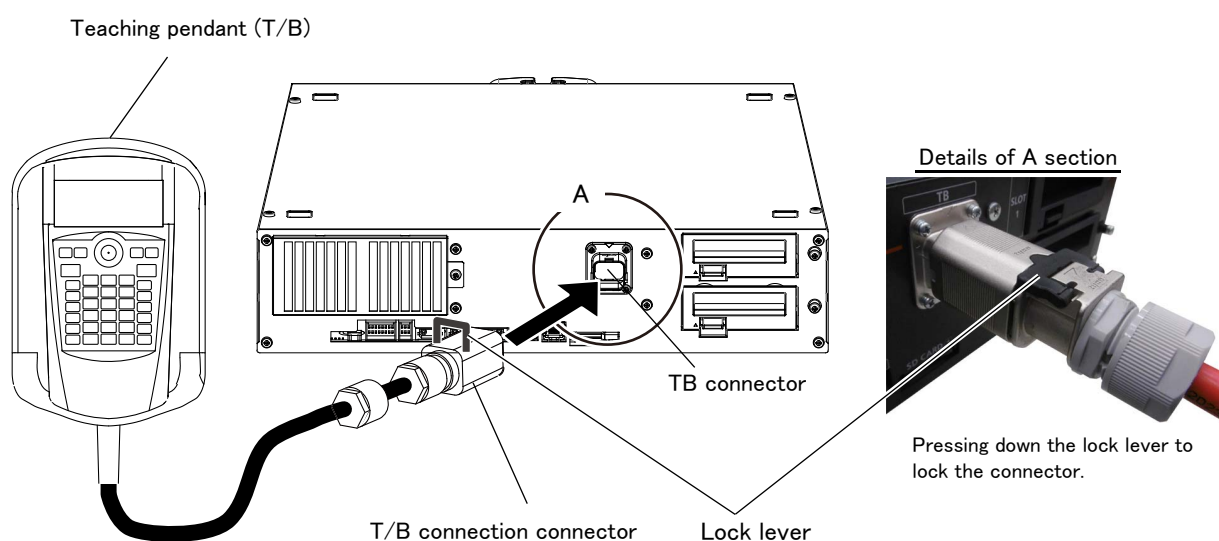

Fig. 2-12 : Installing the T/B
- 2) Refer to Fig. 2-12 and connect T/B connector to the robot controller.